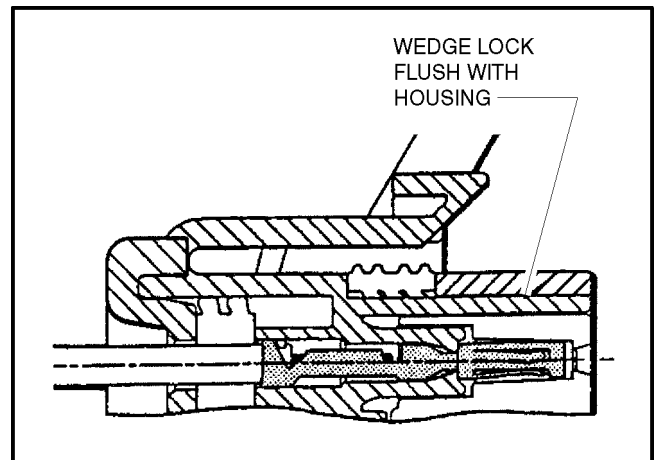

Figure 7-13. Connector Assembly Figure 4
4. Slide the wedge lock into the housing until it is flush with the housing. (See Figure 7-13.)